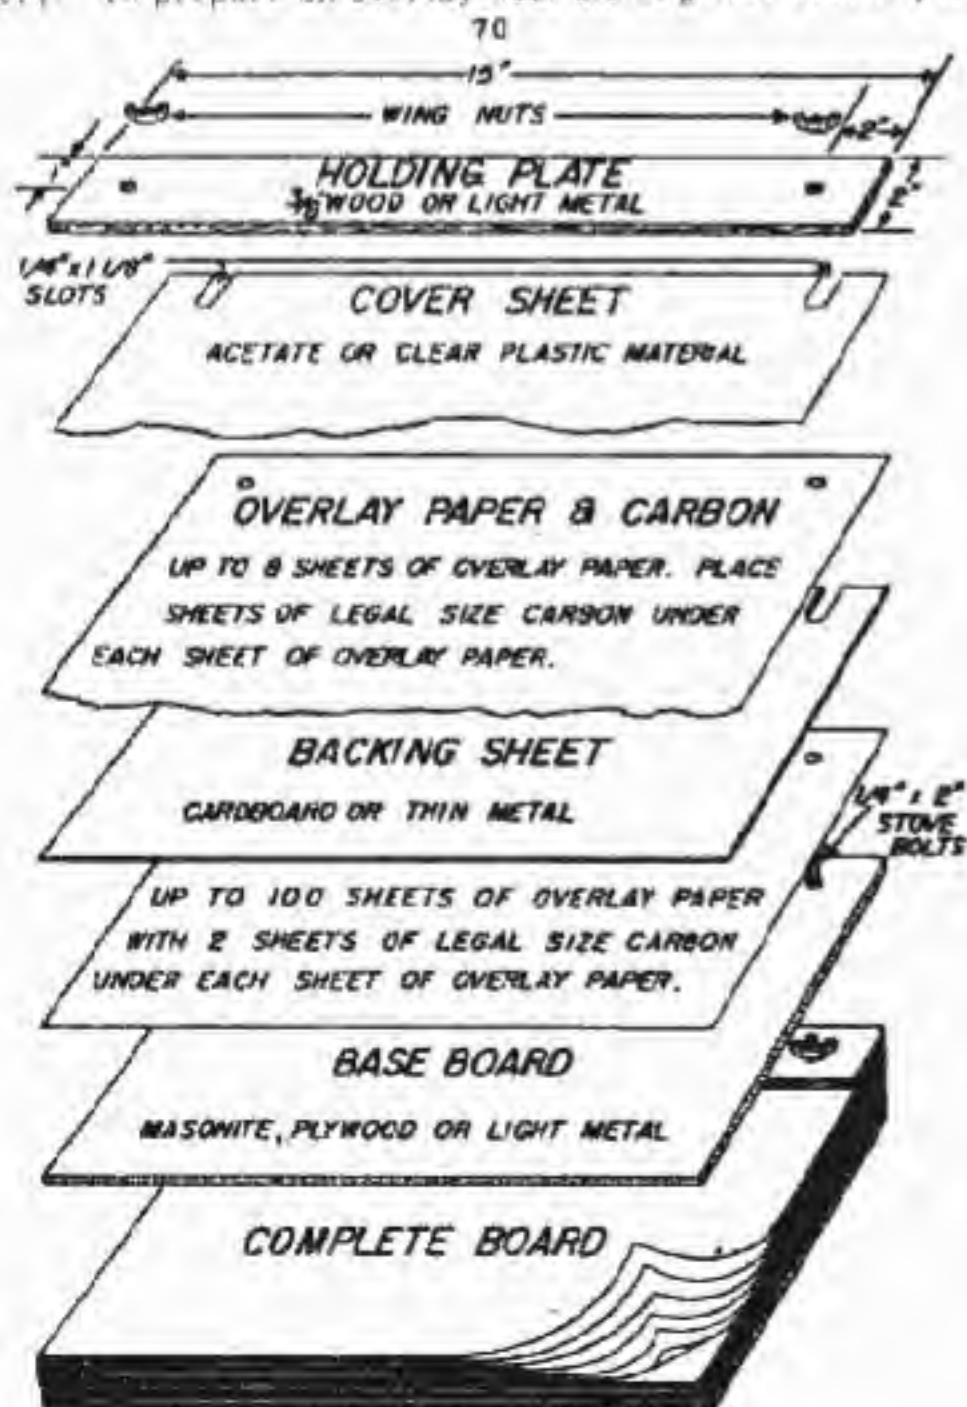

Figure 2
2. **DAGWOOD BOARD** (Figure 2) - Rapid production of multiple copies of operation orders, overlays, and similar data is difficult without reproducing machinery. To prepare an overlay with the Dagwood board, place a map